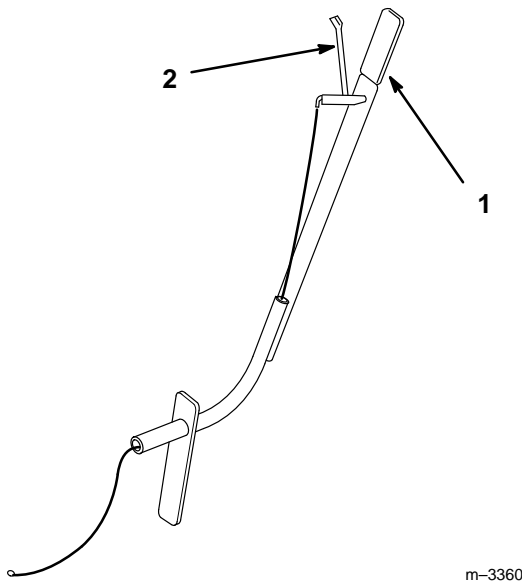

Figure 15
The blade can be angled side to side, in five positions. The direction is controlled by the control handle (Fig. 15).
2. Squeeze the release lever toward the handle (Fig. 15).